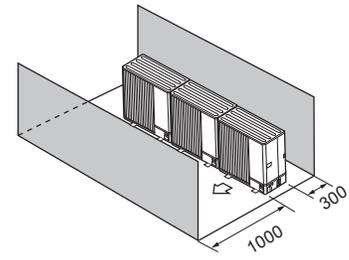

Fig. 2-18
- (4) Obstructions or closed surfaces at front and rear only (Fig. 2-18)